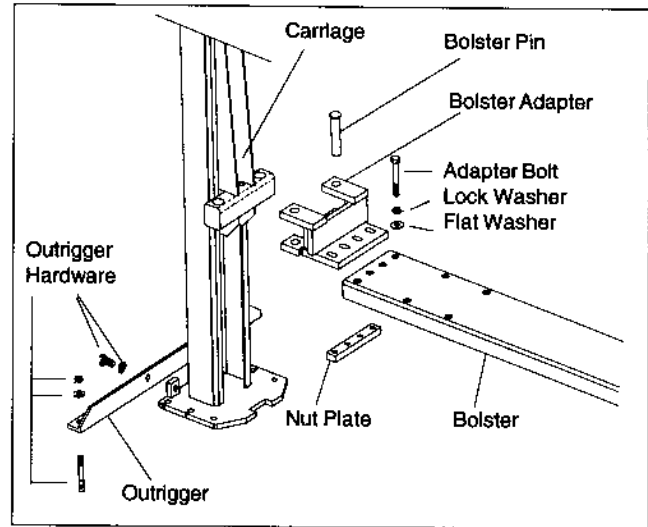

Figure 20 - Alignment Rack Installation
2. Slide the bolster adapters over the carriages. Install two pins to hold the adapter to the carriage (Figure 20).
4. Attach the rack bolster to the carriage adapters. If the AMMCO 2290 Alignment Rack is being installed with the ART-7, be sure the rack bolster is mounted under the bolster adapter (Figure 20).